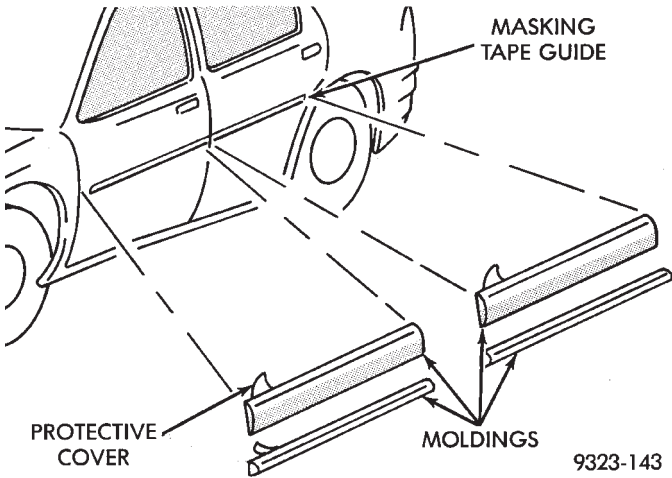

Fig. 26 Body Side Molding
- (1) Warm the effected stick-on molding and body metal to approximately 38° C (100° F) using a suitable heat lamp or heat gun.
- (2) Pull stick-on molding from painted surface (Fig. 26).
- (3) Remove adhesive tape residue from painted surface of vehicle.